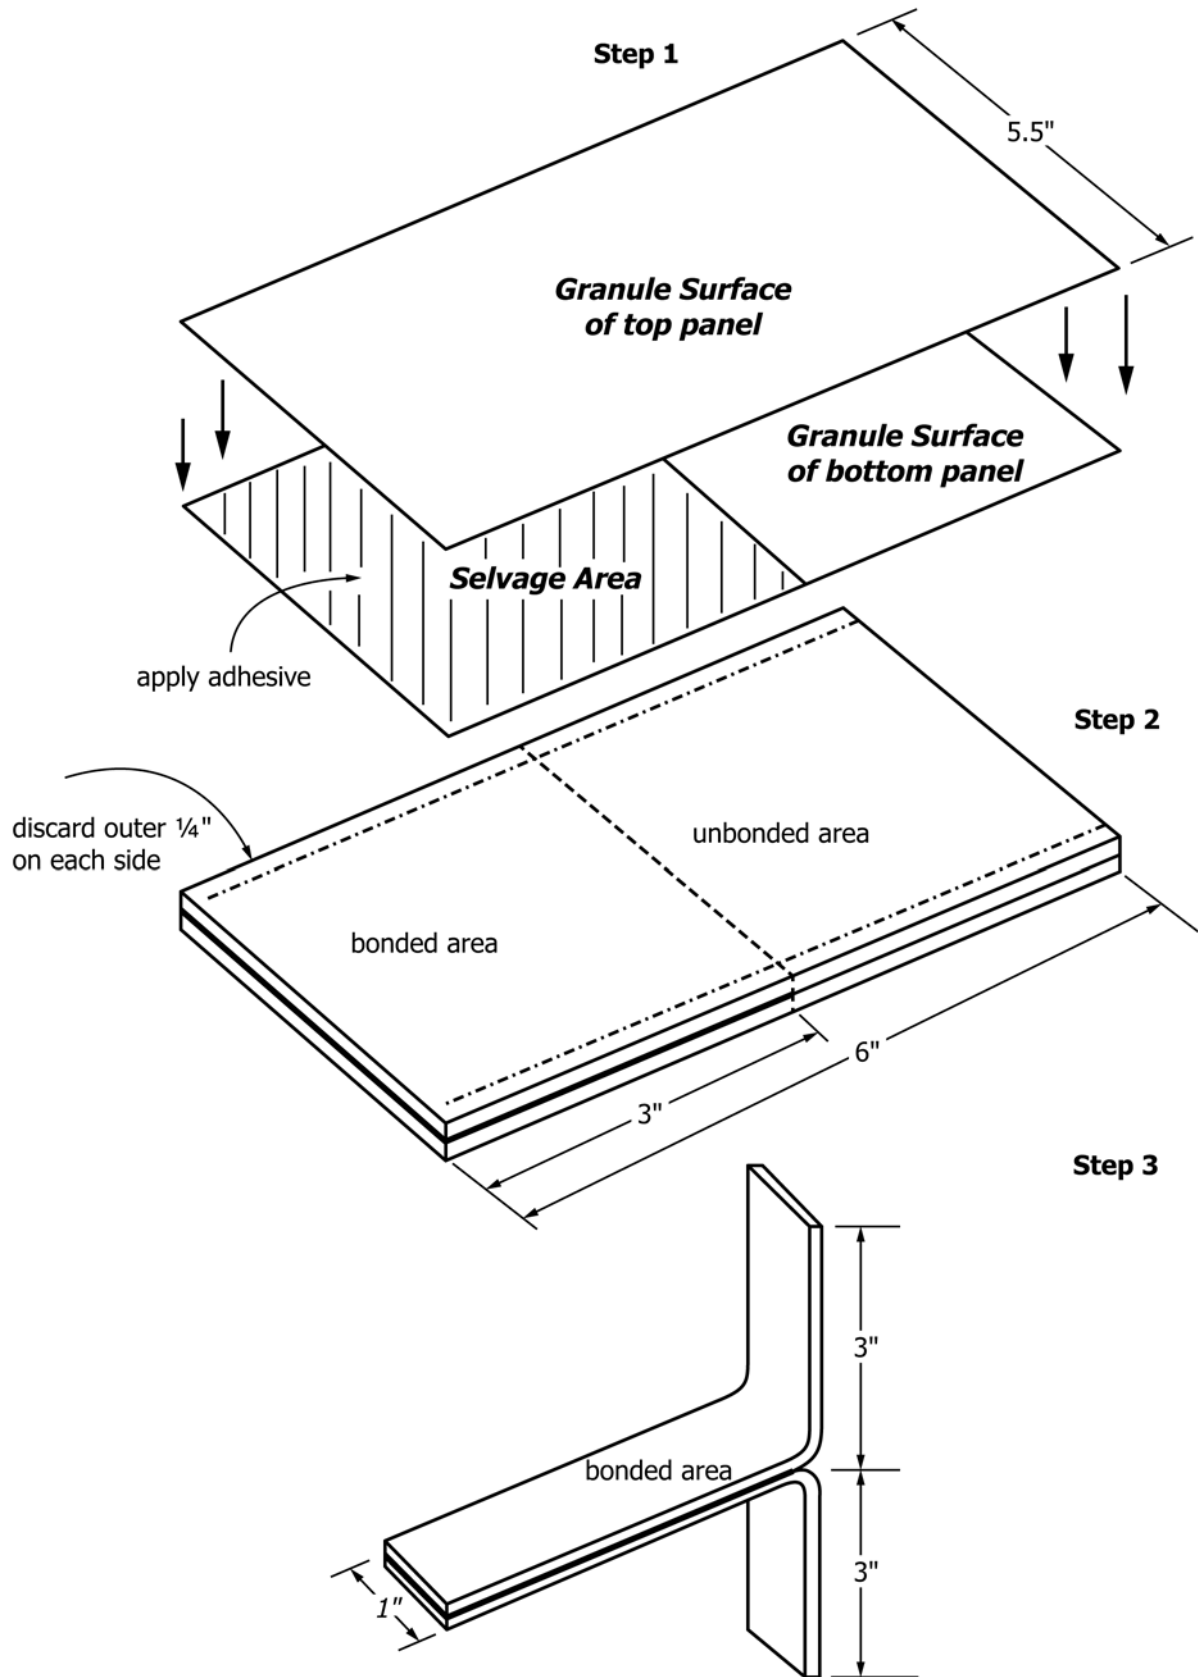

FIG. 1 T-Peel Bonding Configuration for a Modified Bitumen Lap
6.1.1 *Modified Bitumen Samples for Testing*—Samples for testing shall consist of two 140 by 152-mm [5.5 by 6-in.] test panels of modified bitumen, bonded with the adhesive to be tested, and cut into 25-mm [1-in.] specimens as shown in Fig. 1. Cut the modified bitumen sheet materials and mate the sides to be bonded facing each other.
6.2 Stir the adhesive to be tested until it is uniform. Spread 5.0 ± 0.3 g of the adhesive evenly over the selvage portion of a bottom panel. Place the top panel over the adhesive-coated area of the bottom panel (as shown in Fig. 1) in the same manner, as a field lap would be made.